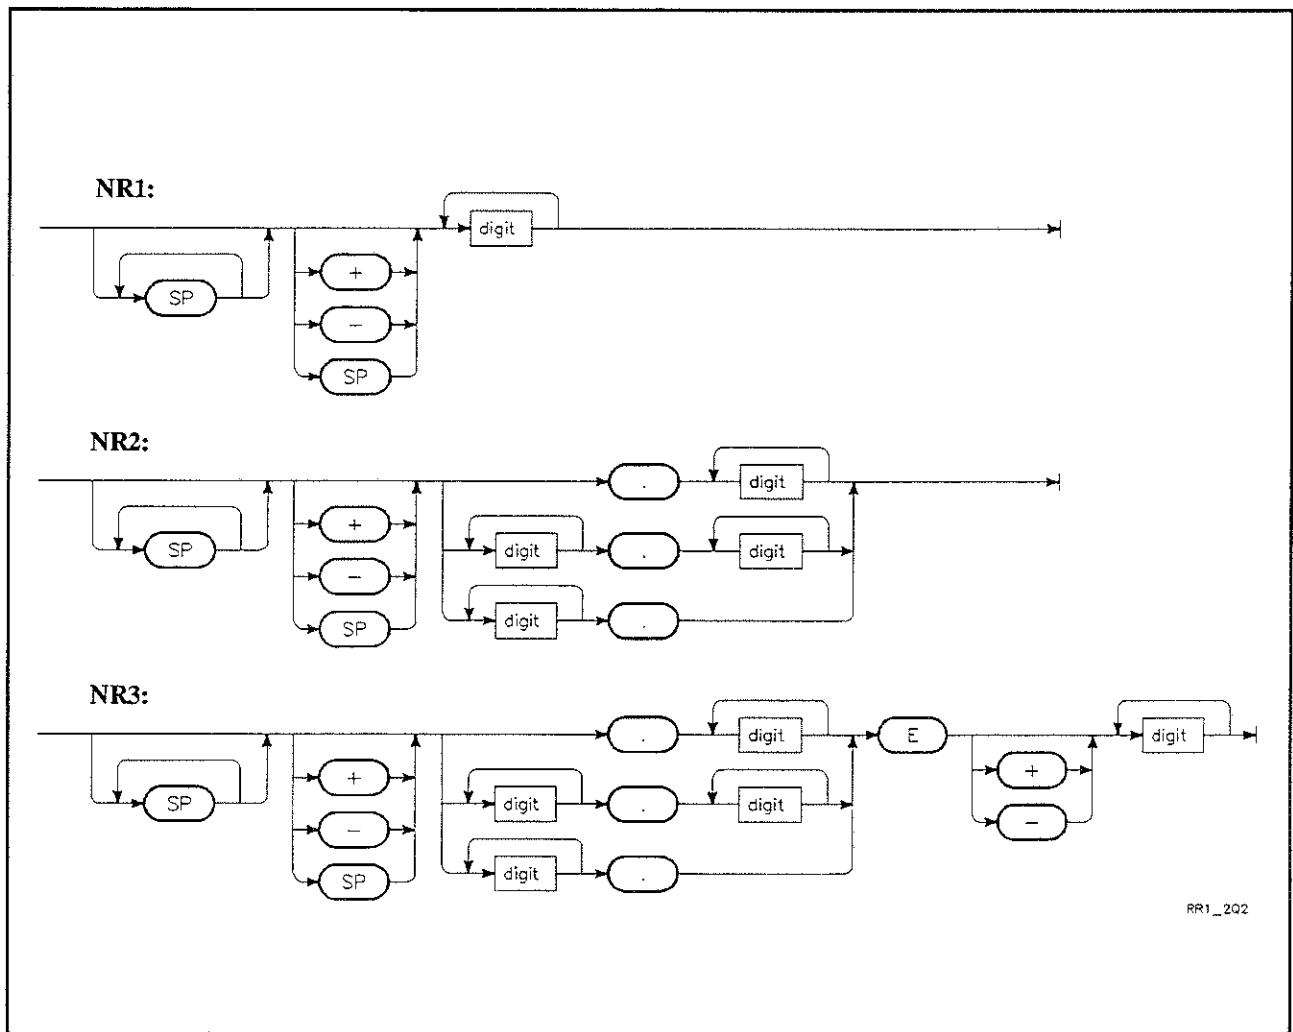

Figure 1-2. Numeric Program Data Format
**Numeric** An integer, floating point, or exponential value. When sending an exponent, the characters <E> or <e> must be used to delimit the mantissa. The syntax follows the integer (NR1), decimal (NR2), or exponential (NR3) formats shown in format, *Figure 1-2*.